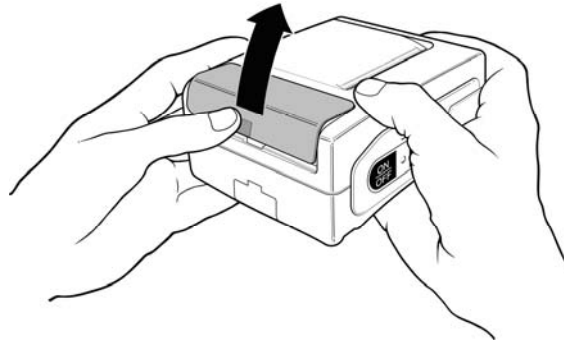

Figure 57: Opening the Battery Door
- Open the battery door by pressing in on the battery cover and pushing upward as shown in Figure 57 below.